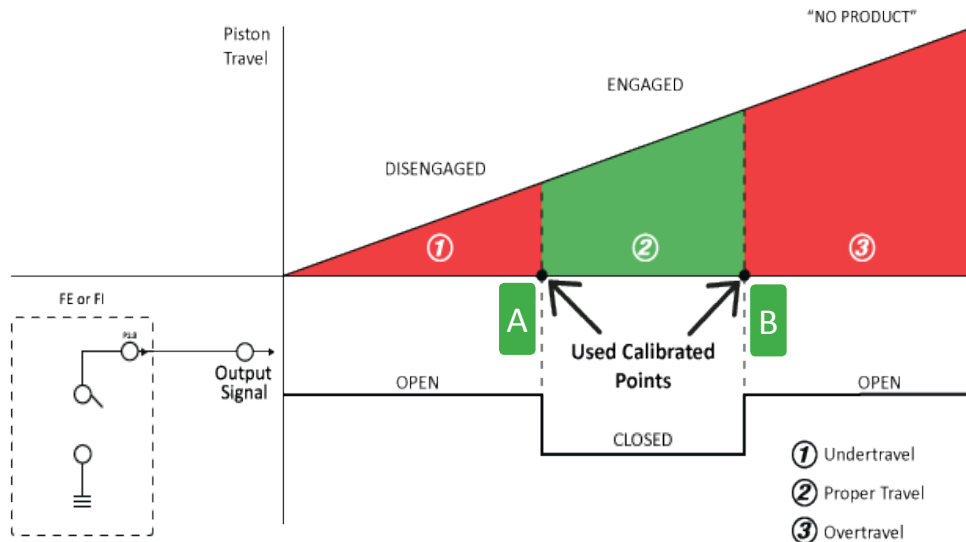

Figure 14. Dual Point Calibration Graph
3. Apply 8-24V to pin #2 for 2 seconds to define point A (Figure 14). After Pin #2 is re-opened (no voltage applied), a 30 second calibration timeout clock initiates. *The output signal begins “flashing” or alternating between open and closed states to signify the user has entered calibration mode.*